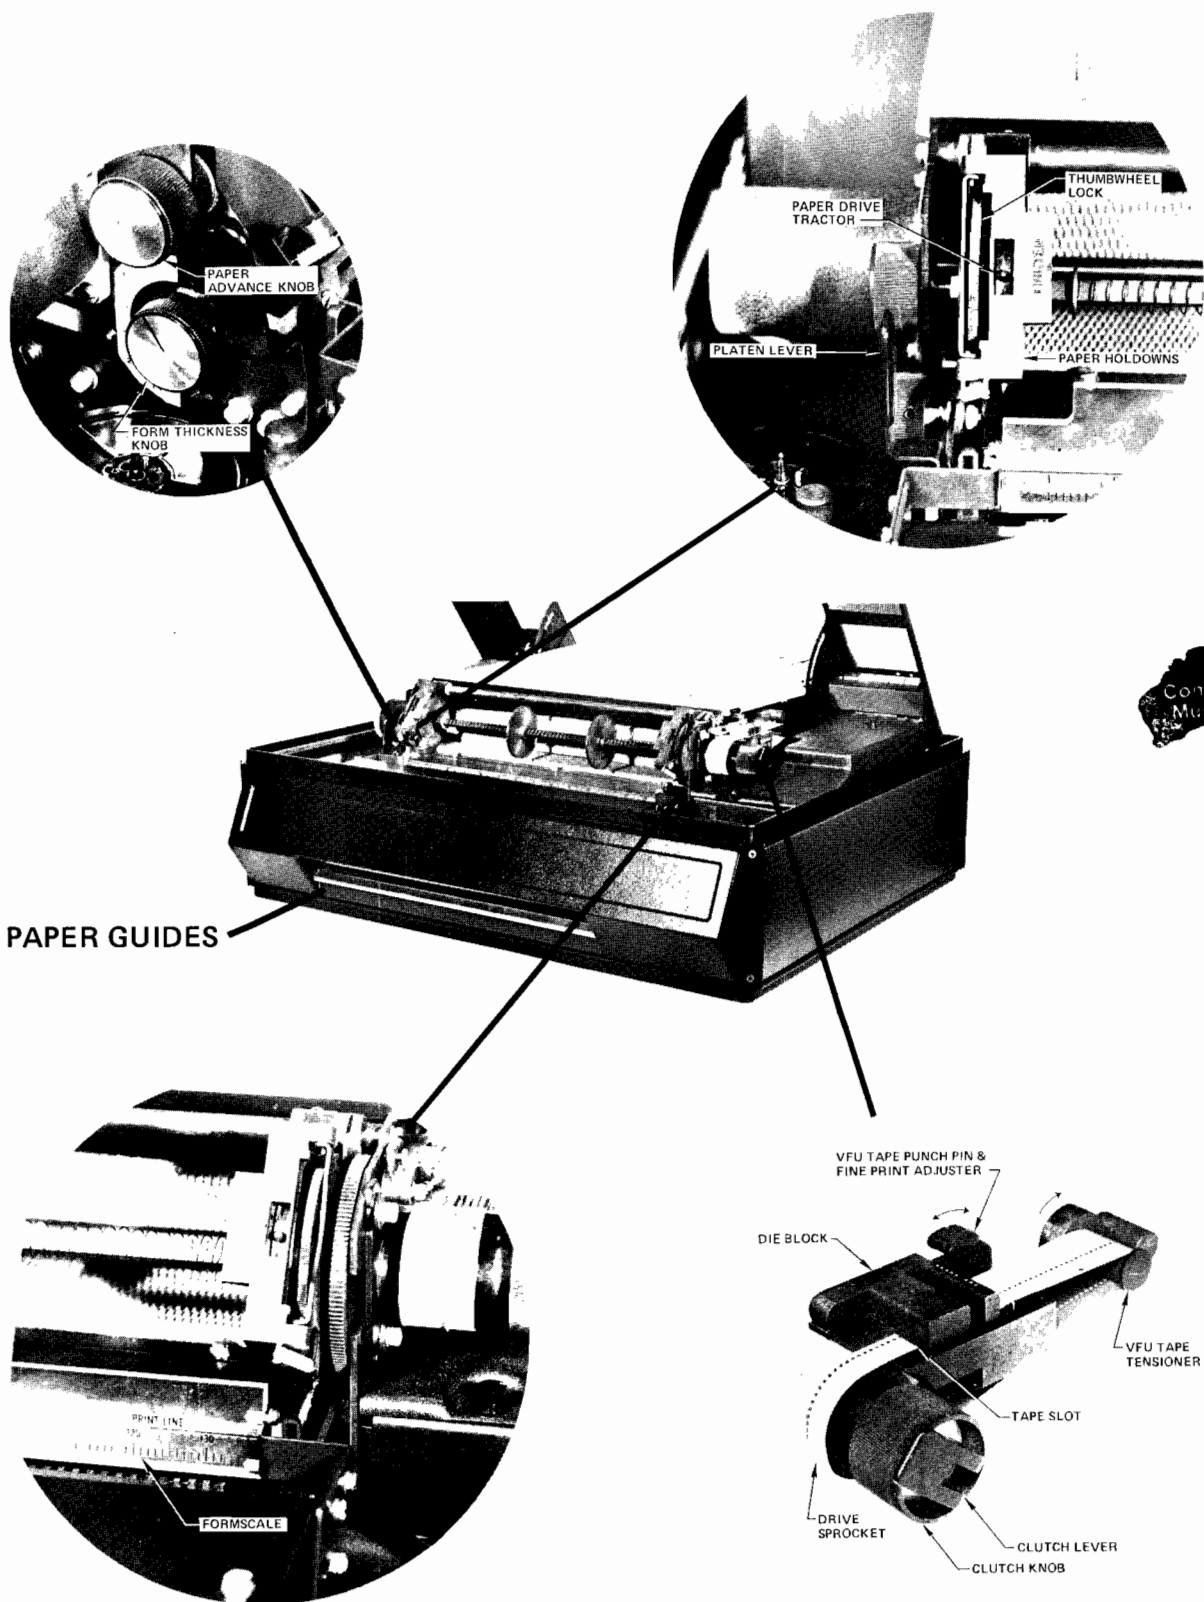

Figure 3
The form thickness knob is used to adjust for various form (pack) thicknesses. This knob should be adjusted while printing in order to optimize print quality. The knob is shown in figure 3.
The location of print on a form is fine tuned by varying the position of the VFU punch/fine print adjuster in its holder. Pushing the adjuster toward the back of the printer lowers the position of print and pulling the adjuster toward the front of the printer raises the position of print. (See figure 3.)
To load paper, refer to figure 3 and proceed as follows:
Be sure the tape loop is correct for the form to be used. Tape loop construction is explained later in this manual. To install the tape loop refer to figure 3 and proceed as follows:
1. Be sure the ON switch is active (down), the PRINT switch is inactive (up) and the VFU tape is installed. Center the VFU punch pin in its holder (see figure 3).
6. Using the clutch knob, shown in figure 3, move the paper backwards until the reference line drawn in step 5 is a little below the PRINT LINE on the formscale. Then advance the paper until the reference line drawn on the paper is just above the PRINT LINE on the formscale.